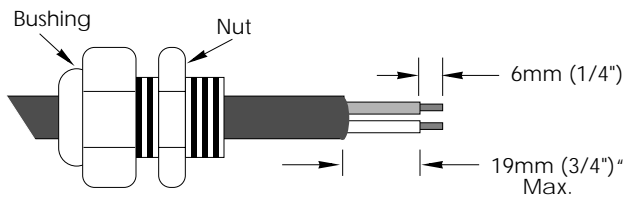

FIGURE 1 Cable Preparation
2. Slide one compression bushing at least 153mm (6") back from each cable end as shown in Figure 1.
3. Prepare the individual wires as indicated in Figure 1.